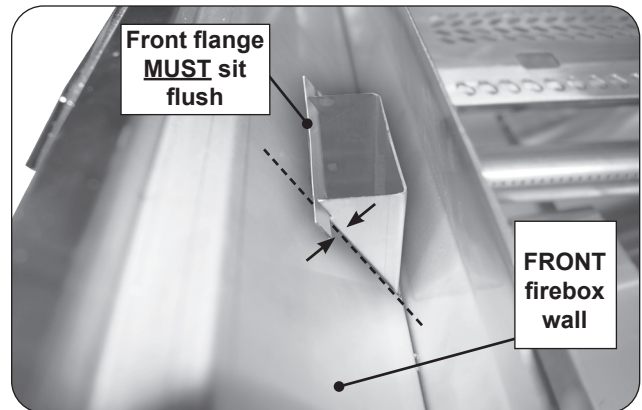

Fig. 40-3 Drip tray chute installed
3. To replace, drop the chute back into the top and bottom cutouts of the front firebox wall. The front flange MUST sit flush against the firebox wall. See Fig. 40-3.